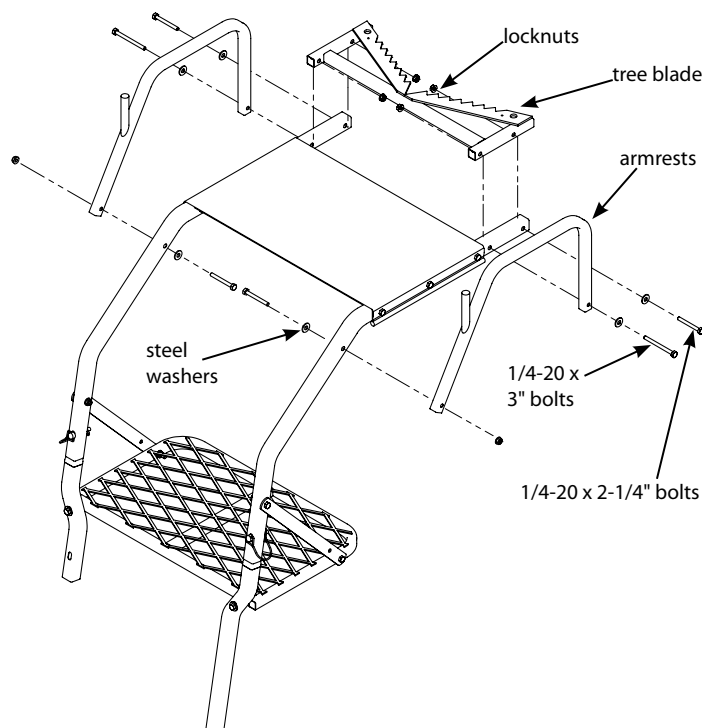
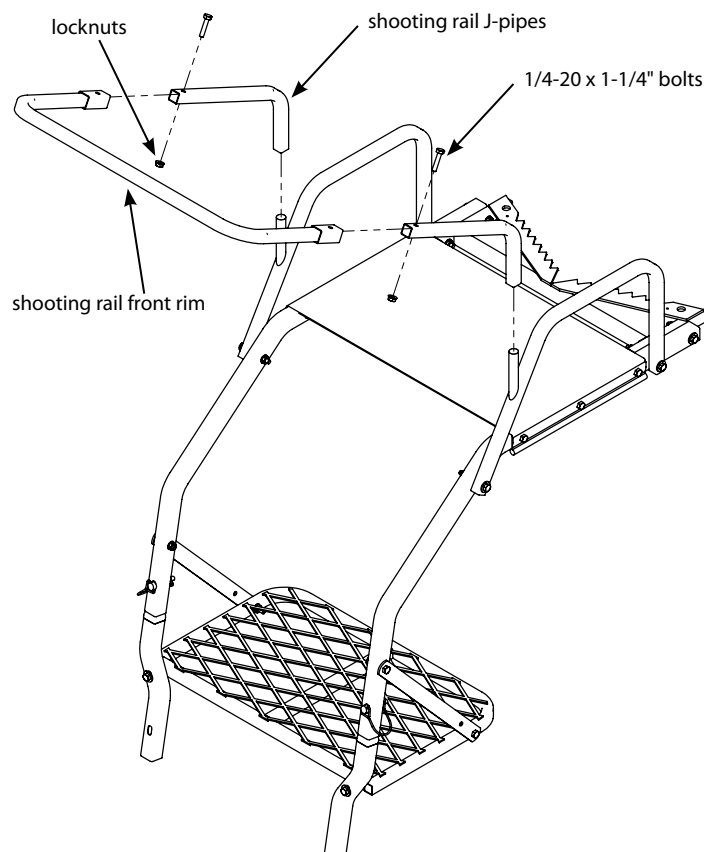
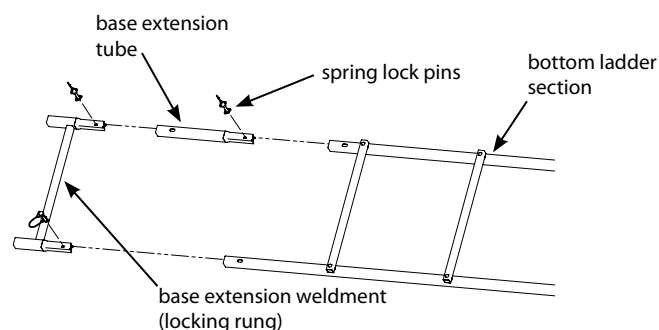

Figure 4
Figure 5
Figure 6
4. Attach the tree blade weldment (SL67) to the rear end of ladder side rails and (2) armrests to the ladder side rails using (2) provided 1/4-20 x 2-1/4" bolts, (2) provided 1/4-20 x 3" bolts, (4) locknuts and (6) steel washers. **SEE FIGURE 4. Tree blade will be a tight fit in order to correctly span the seat properly. You must now tighten all nut & bolt assemblies. Be sure not to over tighten or crush tubing when tightening!**
5. Insert (2) shooting rail J-pipes (410042) into the shooting rail front rim (410041) and secure together using (2) provided 1/4-20 x 1-1/4" bolts and locknuts. **Tighten securely. Be sure not to over tighten or crush tubing when tightening.**
6. a. Attach the removable shooting rail by setting rail down over studs provided on armrests. **SEE FIGURE 5. Lubrication is recommended to prevent binding and noise.**
b. Attach the (2) provided 9" and (1) provided 18" camo foam pads to the armrests and shooting rail by wrapping around tubing and attaching Velcro together.
8. Insert one side of the base extension weldment (410044) into the base extension rail tube (410040) and secure with (1) spring lock pin. Handle of spring lock pin must be put to the outside of long rail. **SEE FIGURE 6.**
9. Take the factory assembled ladder sections and unfold them to their fully deployed width. Insert the previously assembled base extension into (1) 3-step ladder section (410032) and secure with (2) spring lock pins. Handle of spring lock pins must be put to the outside of the ladder side rails. **SEE FIGURE 6.** This step now makes this the bottom ladder section.